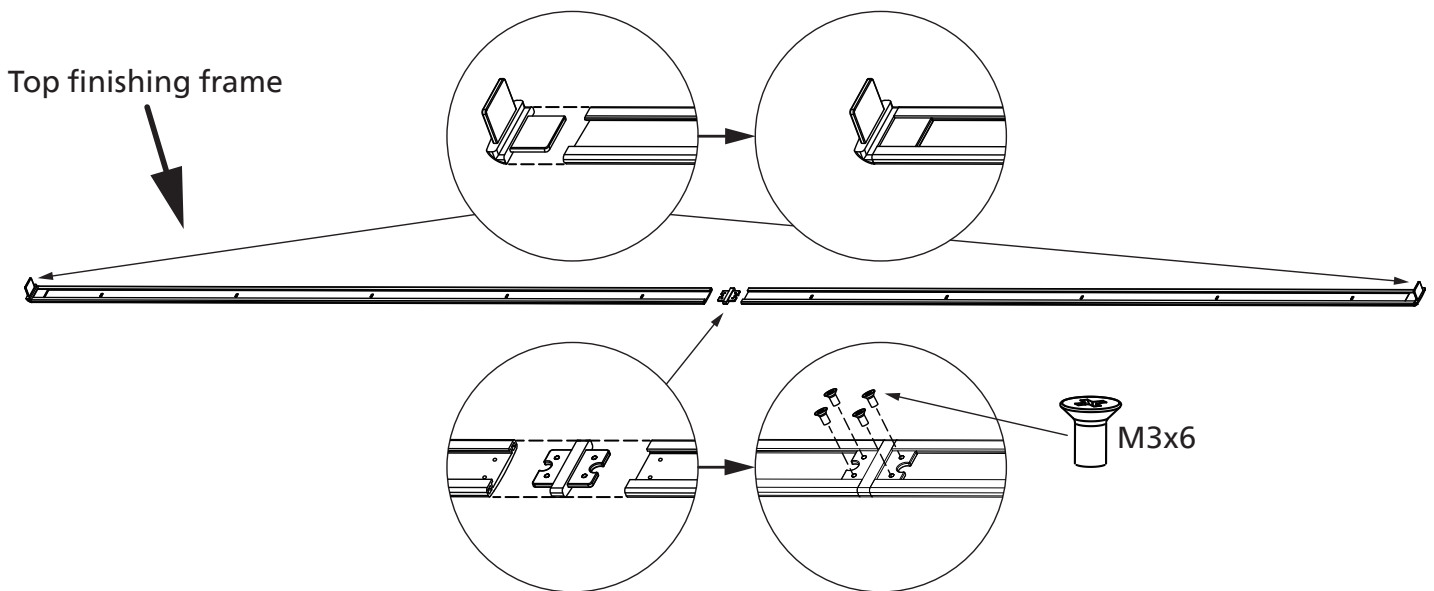
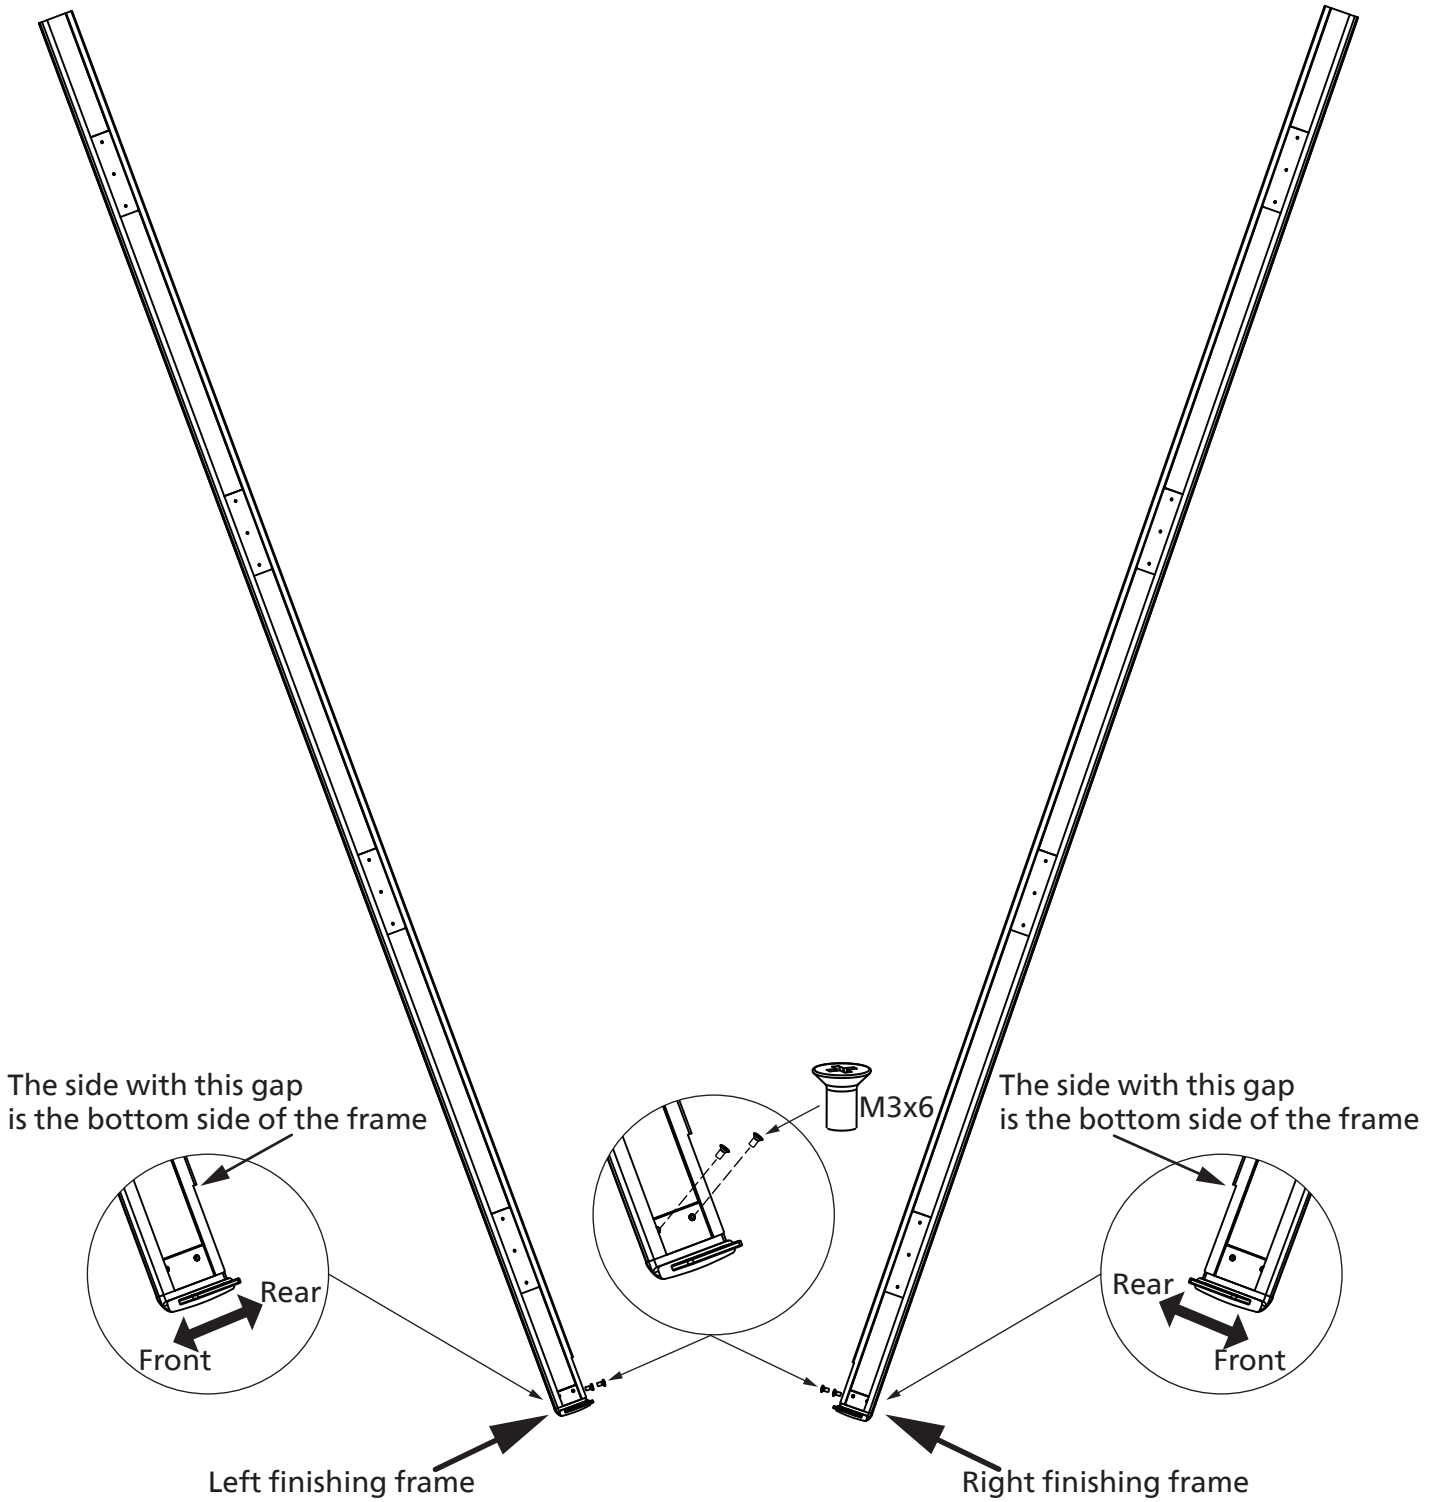

Figure 16 Install the top finishing frame
Figure 17 Install the left & right finishing frame
16. Install the edge finishing frames (Left & Right & Top frame), as shown in Figure 16 & Figure 17.